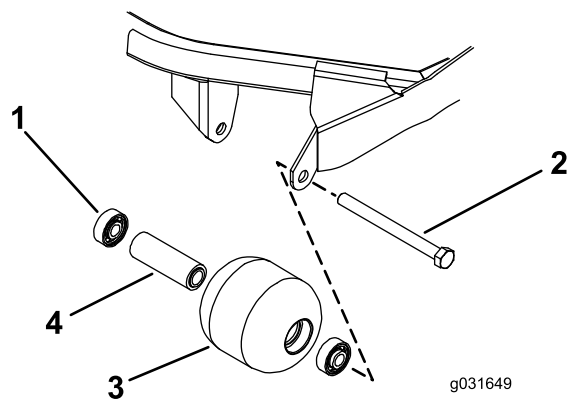

Figure 71
1. Remove the roller-mounting bolt (Figure 71).
4. Inspect the roller housing, bearings, and bearing spacer for damage (Figure 71).
1. Pressing on the outer race only or equally on the inner and outer race, press the first bearing into the roller housing (Figure 71).
2. Insert the spacer (Figure 71).
3. Pressing on outer race only or equally on the inner and outer race, press the second bearing into the roller housing until it contacts the spacer (Figure 71).